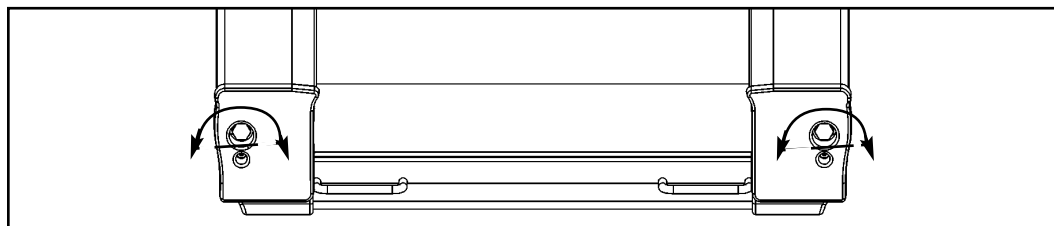

Figure 1
- Use a 3/4" socket wrench to turn each bolt 1/2 turn clockwise. See Figure 1. **NOTE:** *Be sure to adjust each bolt equally on each side.*